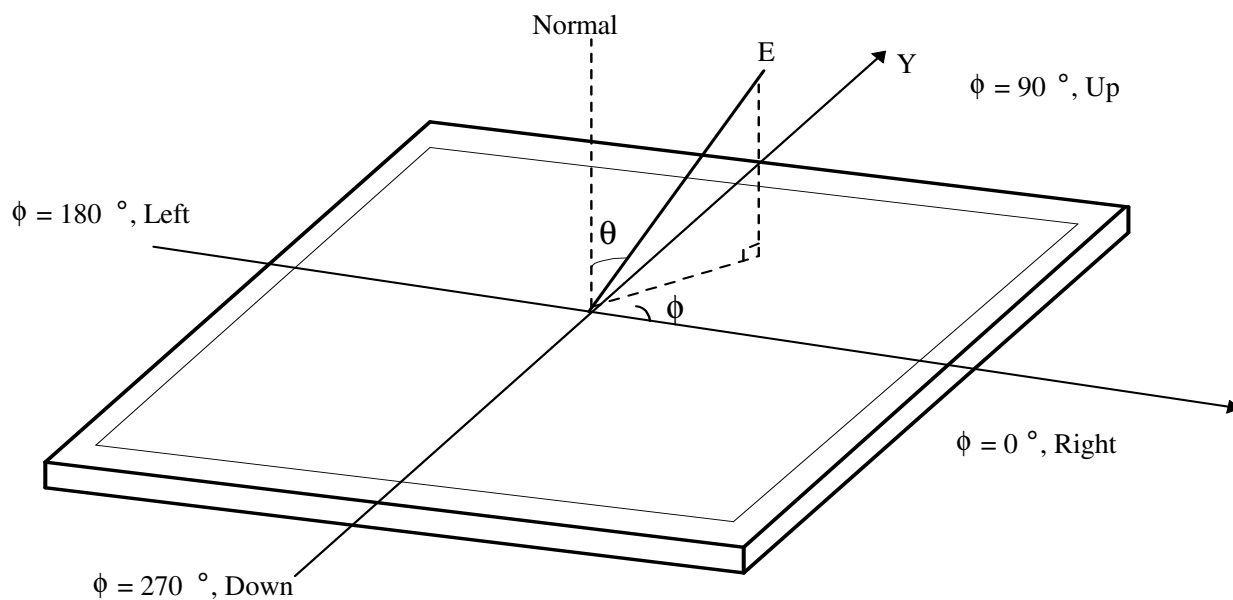

FIG. 5 Viewing angle
6. Viewing angle is the angle at which the contrast ratio is greater than 10. The angles are determined for the horizontal or x axis and the vertical or y axis with respect to the z axis which is normal to the LCD module surface. For more information, see the FIG. 5.